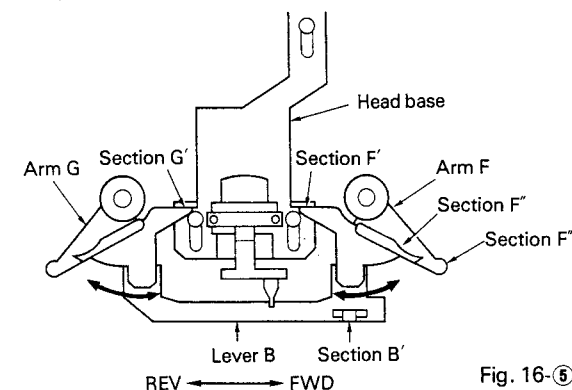

Fig. 16-5
- Simultaneously, the arm "F", "F" unit pushes the arm "H", "H" part. The "H" part lock releases when pushed, and the play idler gear comes into contact with the reel unit. Play operation begins because of this. (Fig. 16-5, Fig. 17)